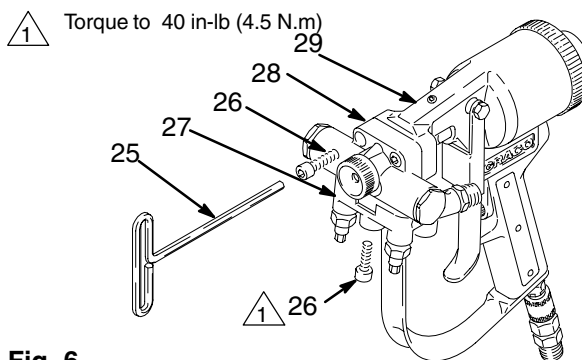

Fig. 6
1. Use the 3/16" wrench (25) to remove one cap-screw (26) from the fluid manifold (27) and two capscrews (26) from the nozzle housing (28). See Fig. 6.
2. Trigger the gun, and then pull the nozzle housing (28) straight off the gun body (29). See Fig. 6.
- Use the 3/16" wrench (25) to install the two top capscrews (26) firmly into the nozzle housing. Torque to 40 in-lb (4.5 N.m). See Fig. 6, page 9.